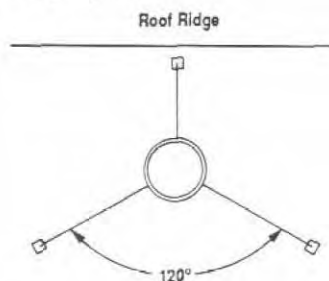

Figure 34
**Note:** If chimney extends more than 8' (2.4m) above roof surface, guy wires are also recommended. Use three (3) guy wires, attach to locking band assembly, extend and secure to roof in a triangular pattern (Figure 34). Guy wires are not supplied by Superior.